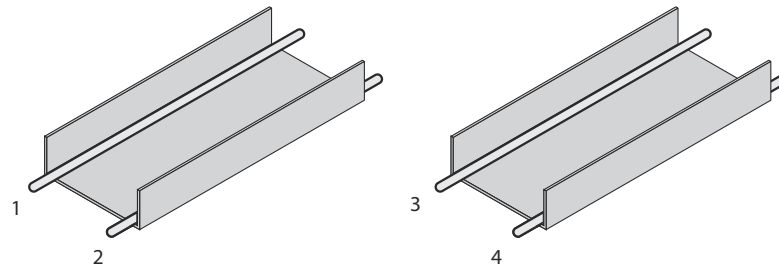
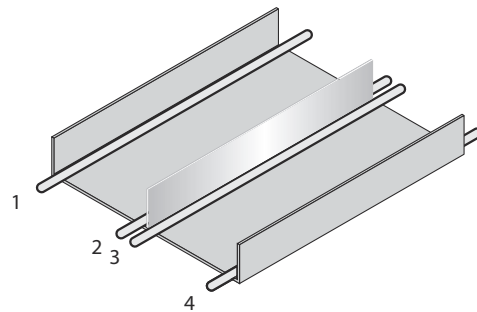

Figure 15: Ideal laying - Place cables in different cable channels
Figure 16: Alternative laying - Separate cables with metallic separators
- ▶ Cables in groups 1, 2 and 3, 4 must be routed in different cable channels or metallic separators must be used, see figure 15 and see figure 16. This applies particularly where cables of devices with a high level of radiated emission, such as frequency converters, are laid parallel to sensor cables.